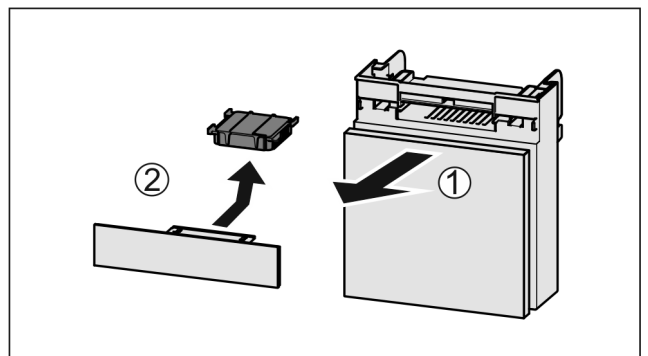

Fig. 141
- Pull out the compartment *Fig. 141 (1)*.
- Remove the carbon filter *Fig. 141 (2)*.